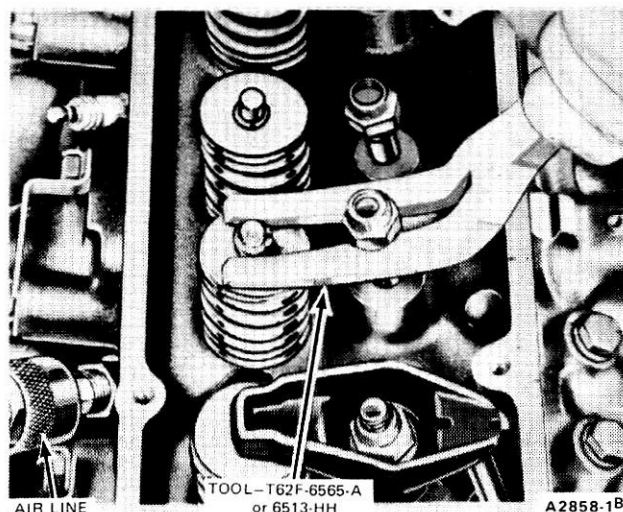

FIG. 15 Compressing Valve Spring—In Chassis
4. Install the stud nut and position the compressor tool as shown in Fig. 15. Compress the valve spring and remove the retainer locks, sleeve, spring retainer and valve spring.